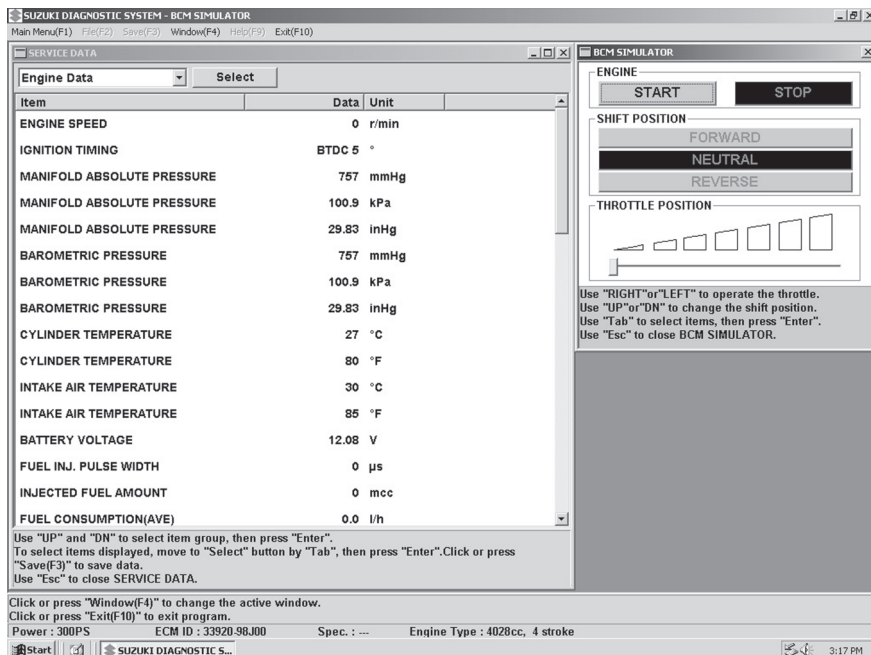

Fig.65
2. The following window (Fig.65) appears.